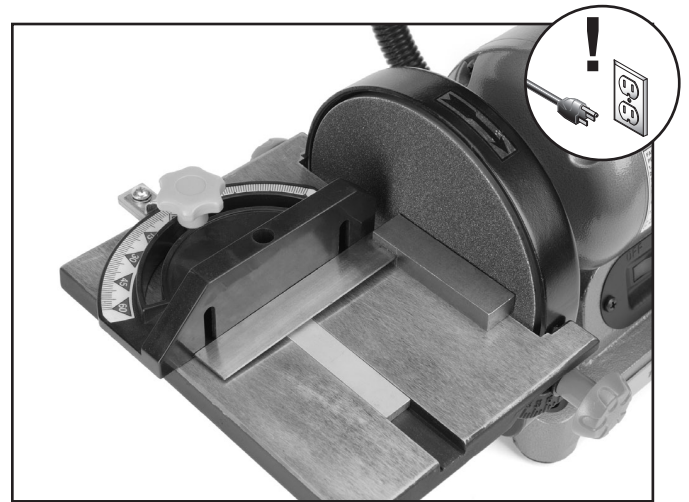

Figure 7. Squaring the miter gauge.
2. Use a machinist square with one edge against the face of the miter gauge and the other against the disc face as shown in **Figure 7**.